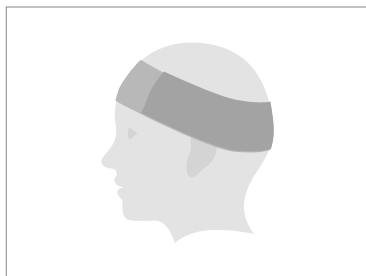

Figure 1: Head bandage to support fixation of the implant
- A supportive head bandage must be placed over the implant before entering the scanner room. This may be an elastic bandage wrapped tightly around the head at least three times (refer to Figure 1). The bandage needs to fit tightly but should not cause pain.